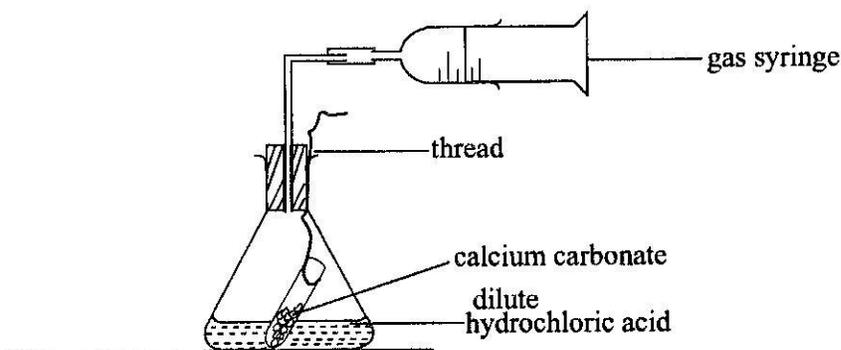

Fig. 11.11
4. The figure 11.11 shows the setup of the experiment used to study the rate of evolution of a gas when 1.0g of powdered calcium carbonate was reacted with 50cm³ of 2 M hydrochloric acid at 25 °C.